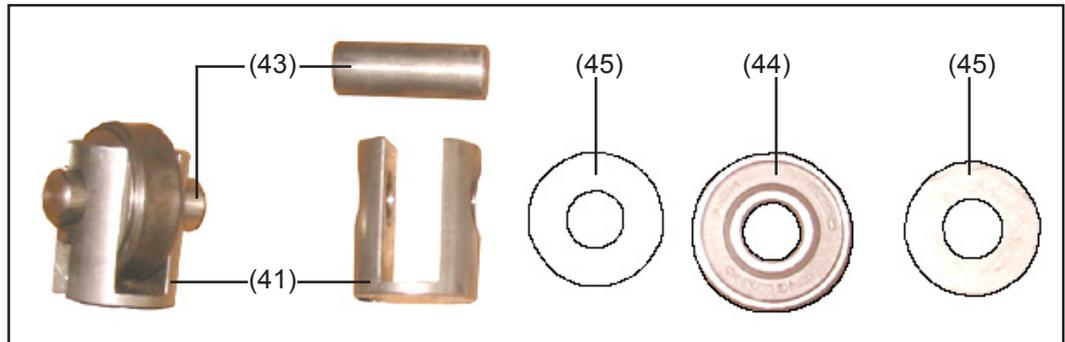

Fig.49 Removing the knock-out arbors
NOTE! Danger of damage to arbors. When inserting the arbors (43) into the mounts (41) - Fig. 49 - use a wooden or plastic mallet only. Never use a metal hammer.